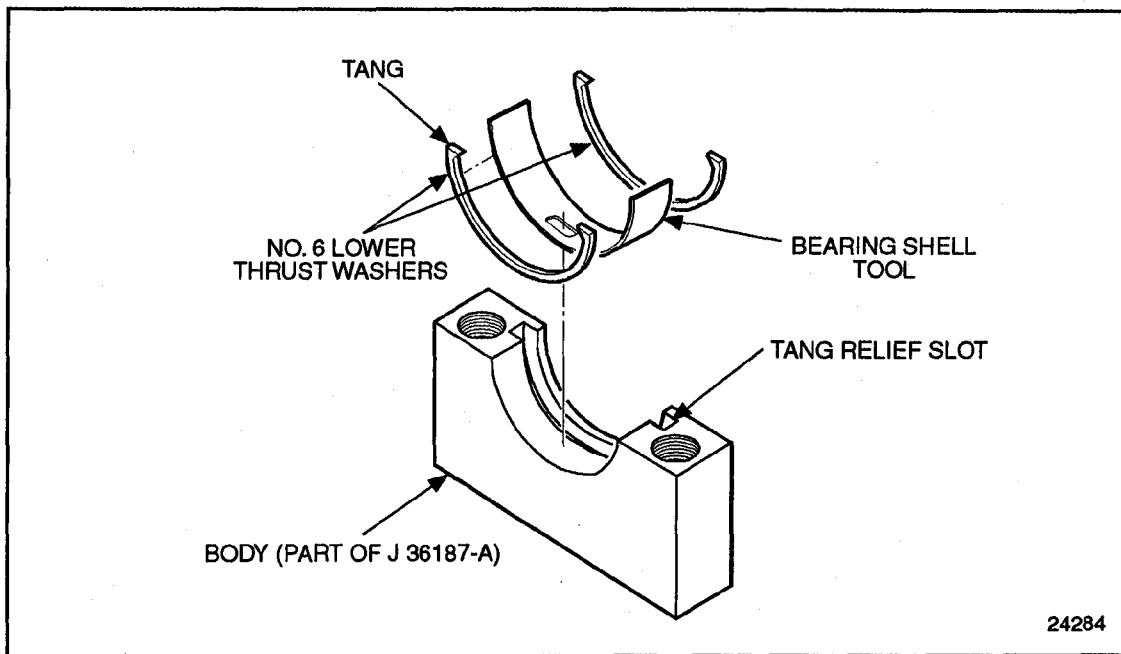

Figure 1-146 Upper Main Bearing Shell Removal-Tool Set-Up
7. For the No. 6 main bearing journal, it will be necessary to install the lower main bearing thrust washers (previously removed) to the machined faces of the body from the tool kit. Stick the thrust washers to the main cap using petroleum jelly. Index the locating tangs on the thrust washers with the cutouts on the bearing shell. See Figure 1-146.